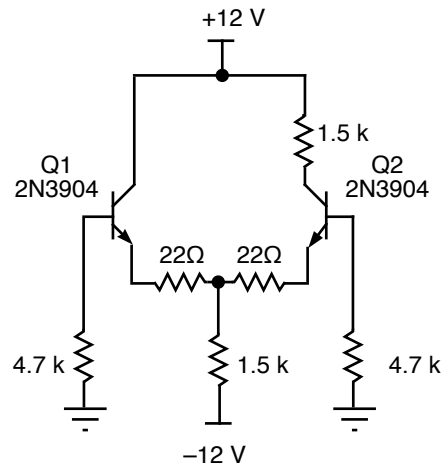

Fig. 6.1
a) Build the differential amplifier shown in Fig. 6.1. The $22\ \Omega$ swamping resistors are used to improve the match between the discrete transistors. Compare the measured tail and base currents with calculated values.